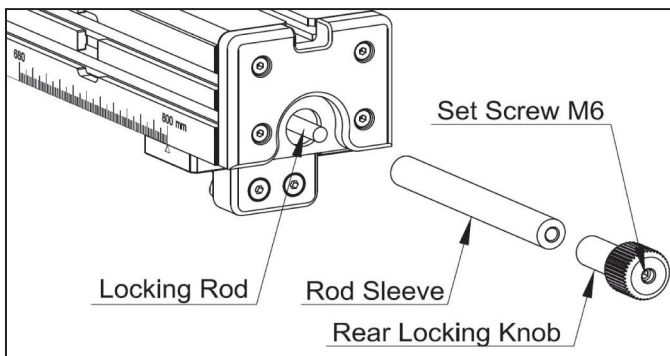
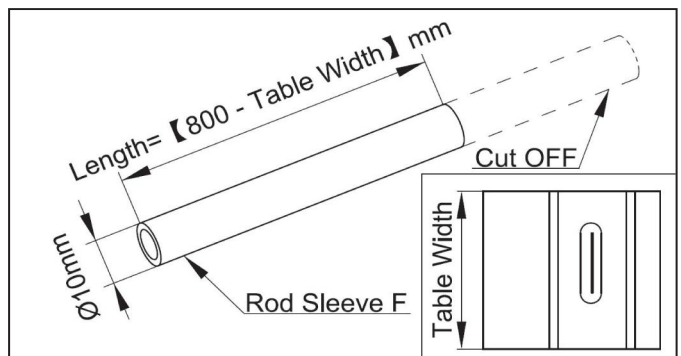

Fig. 6-17
Fig. 6-18
- (1). As shown in Fig. 6-17, loosen the M6 set screw and unscrew the Rear Locking Knob.
- (2). Slip the Rod Sleeve onto the Locking Rod and then screw the Rear Locking Knob back on. You do not need to tighten the M6 set screw at this point to allow for adjustments later.
- c. If the table width is between 690mm and 795mm, you will need to modify the rod sleeve before installation. The installation procedure remains the same as in the previous step. Afterward, proceed with step 3. The rod sleeve must be shortened to meet the installation requirements for tables within the width range of 690mm to 795mm. The modified dimensions for the rod sleeve can be found in Fig. 6-18. **The length of the rod sleeve should be equal to 800mm minus the width of the table.**